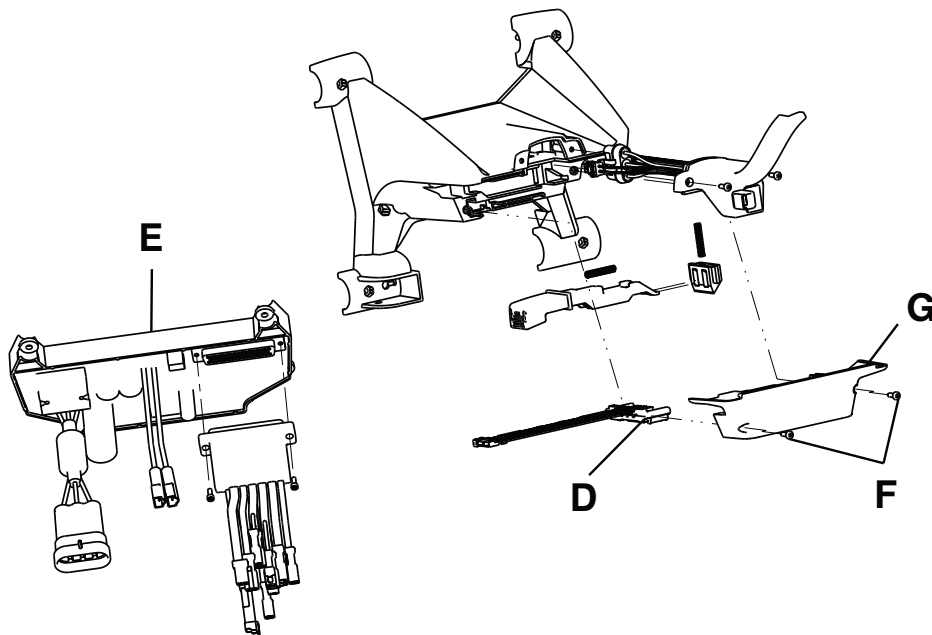

Figure 16 – Control board and cot connector cable assembly
6. Unplug the black and red wires that connect the cot connector cable assembly (D) to the control board (E) (Figure 16).
7. Using a T20 Torx driver, remove the two delta screws (F) from the bottom plate of the foot end enclosure (G) to remove the enclosure (Figure 16). Save all parts.